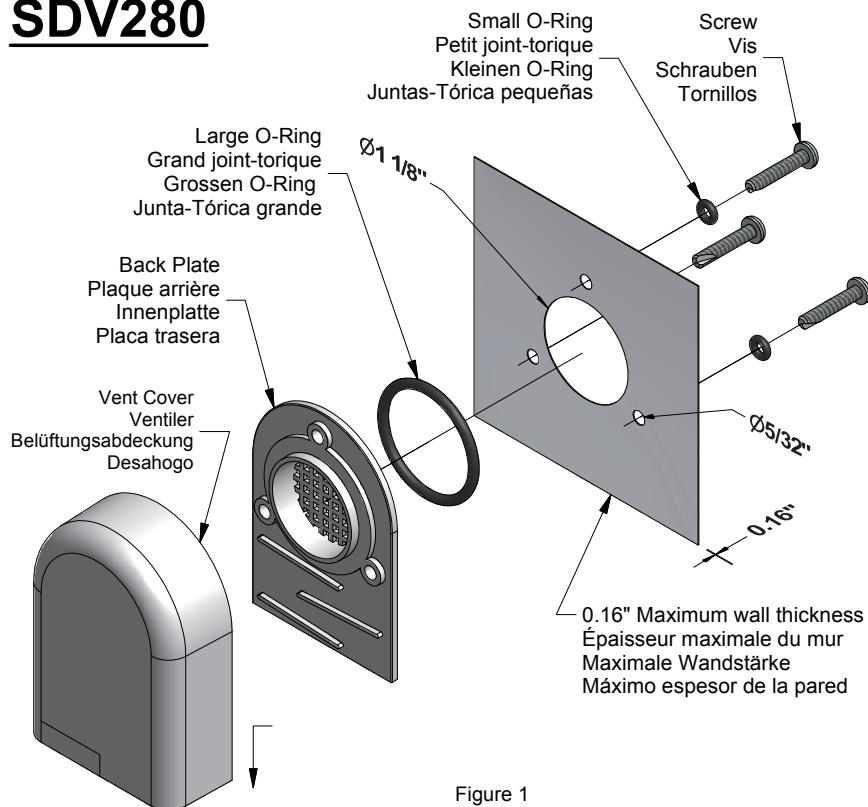

Figure 1
4. Assemble the vent cover, back plate and large o-ring in the hole pattern. Install the screws and small o-rings as shown in Figure 1. Do not over tighten!
4. Affixer le couvercle, la plaque de fond et le gros joint torique au trou $\text{\O} 1-1/8"$. Installez les vis et petits joints toriques tel que figure 1. Ne pas serrer excessivement!